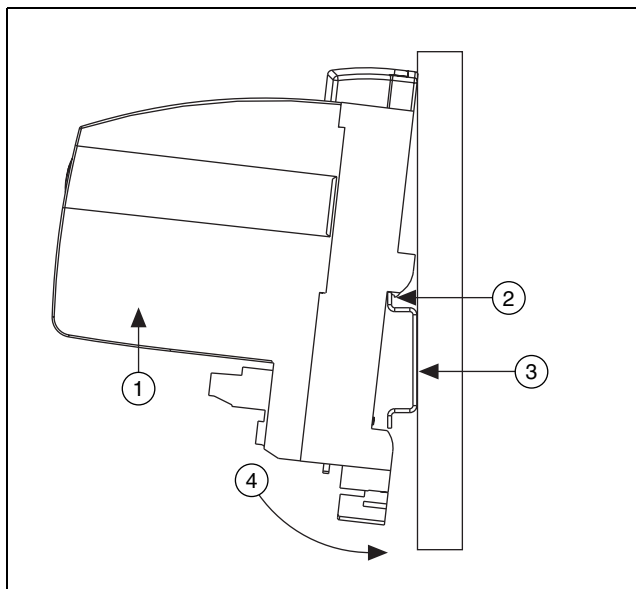

**Figure 1.** DIN Rail Clip
1. Use a flat-bladed screwdriver to open the DIN rail clip to the unlocked position, as shown in Figure 1.